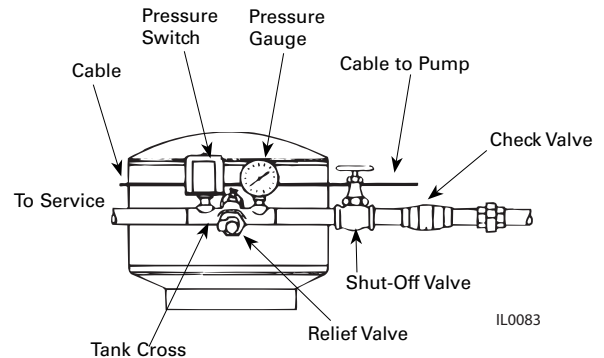

Figure 13
- An additional check valve should be installed in the horizontal line between the well top and the pressure tank (See Figure 13.)